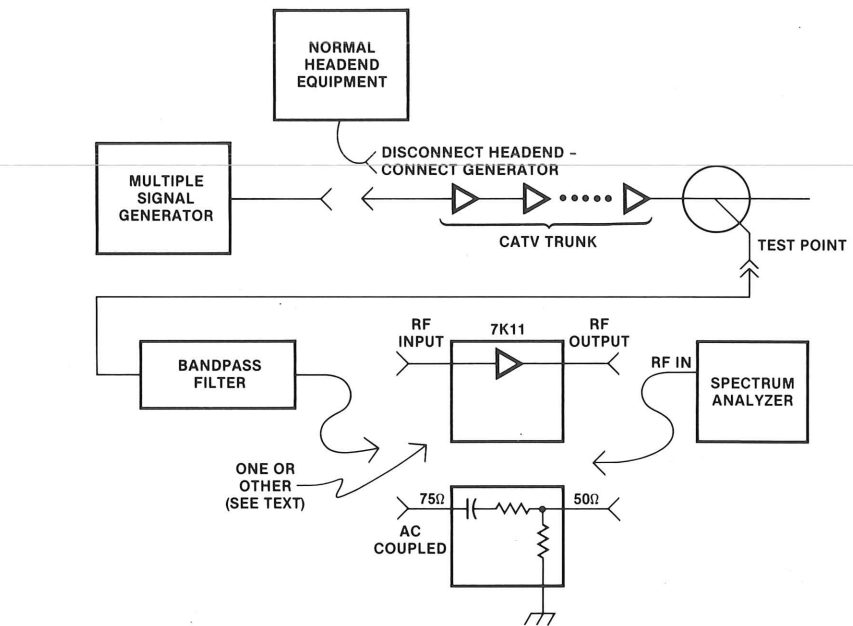

Figure 3-1. Equipment connection for composite triple-beat measurement.
2. Connect the test equipment shown in figure 3-1 at the test point in the distribution system. The bandpass filter must pass the picture carrier of the channel to be tested. Channel 11 is normally used for this measurement. The 7K11 Preamplifier is unnecessary when a tap level of +20 dBm or greater is available.